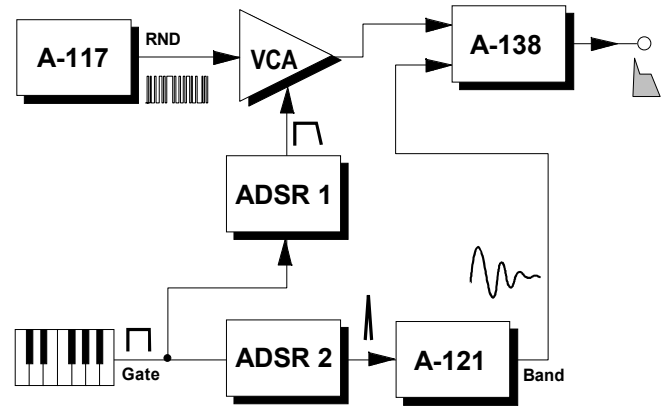

Fig. 3: Producing bass drum sounds
At higher pulse rates, **digital noise** is available at output ①. For example, you can add this unfiltered to other sounds. In Fig. 3, a patch for an 808-like bass drum sound uses a VCA, two ADSRs (one with a very short envelope) and a band-pass filter, to create a burst of bass energy. This standard bass drum sound benefits from filter ringing - see above.